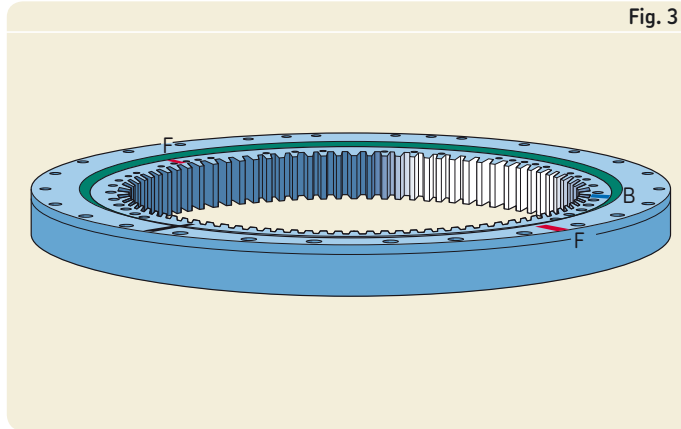

Fig. 4
All bolts and nuts should be tightened with a highly accurate torque wrench (→ **fig. 4**) or a hydraulic bolt tensioner (→ **fig. 5**) in at least two stages as described in the section "Mounting recommendations" (→ **fig. 38**). SKF recommends that whenever possible, the bolts should be tightened using an HYDROCAM hydraulic bolt tensioner. This hydraulically operated bolt tensioner enables bolts to be installed accurately without applying torque. The tensioner also enables
- 4 Position the bearing on the first support surface. The **red marking F** on the ring must be arranged at a 90° angle to the axis of the maximum loaded zone, provided that the axis can be determined or estimated (→ **fig. 4**).